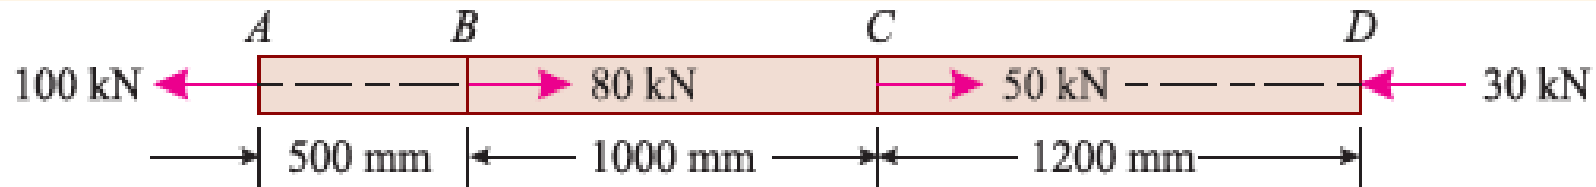

Fig. 2.8
**EXAMPLE 2.11.** A brass bar, having cross-sectional area of  $500 \text{ mm}^2$  is subjected to axial forces as shown in Fig. 2.8.